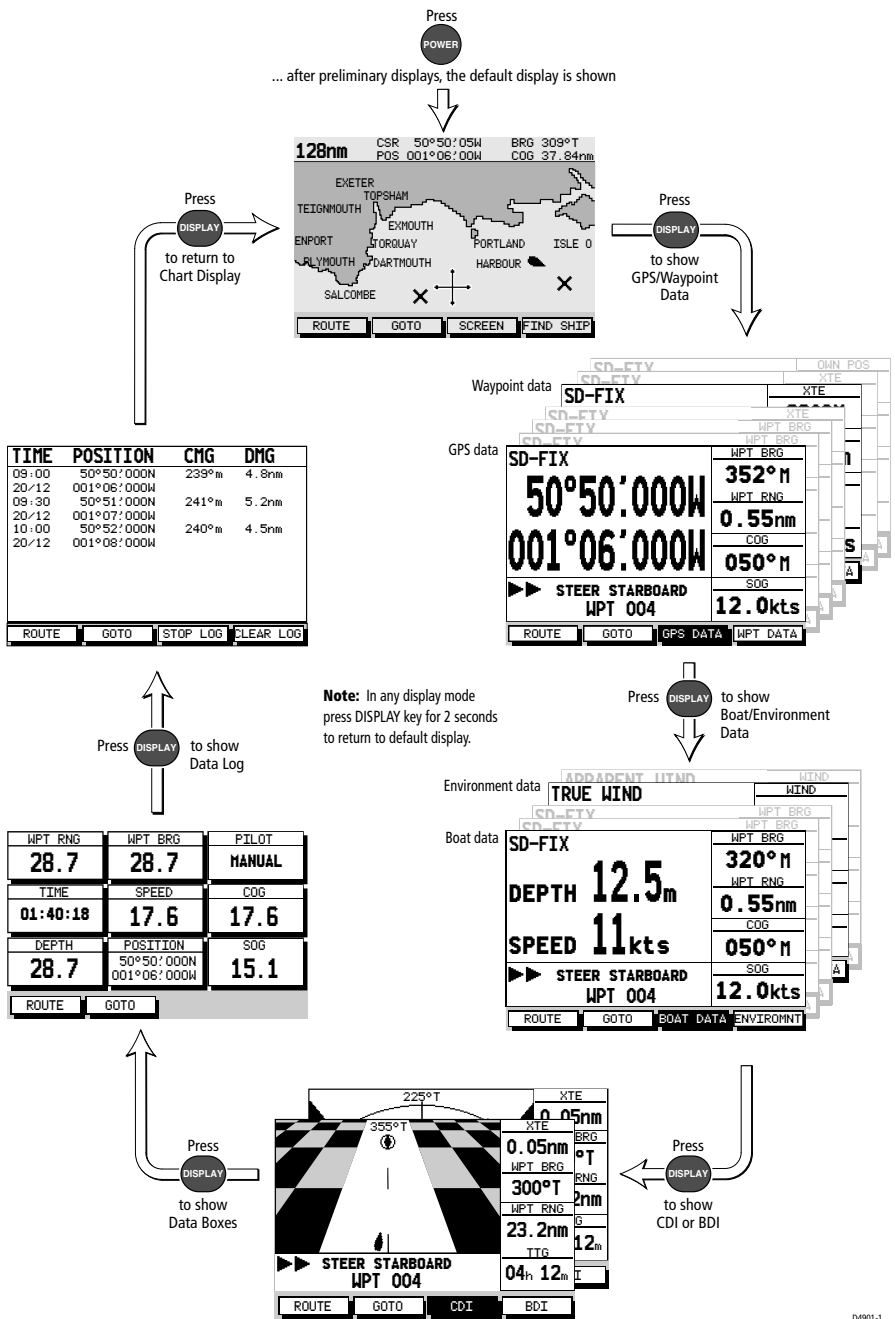

Figure 2-6: Display Modes
- Select the following modes by repeat presses of the **DISPLAY** key (*Figure 2-6*):
The range of pages is listed in *Selecting the Display Mode* on page 4 and illustrated in *Figure 2-6*. The complete range of pages is described fully in *Chapter 3, Operation*.